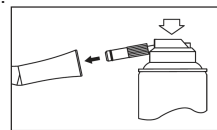

Fig. 3 P.12
2. Insert the Spray Nozzle into the rear of the handpiece. Hold the handpiece firmly and spray lubricant for 2-3 seconds. Apply lubricant until it has been expelled from handpiece head for 2 seconds (Fig. 3).